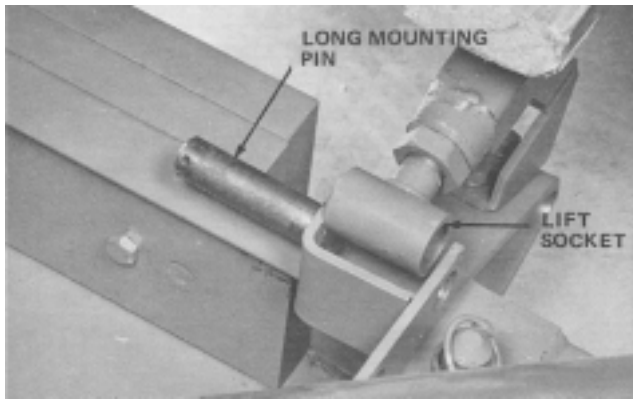

Figure 5
2. Push left side push arm down; then block the arm so it cannot move. Next, secure plow to push arm with long mounting pin (Fig. 5).